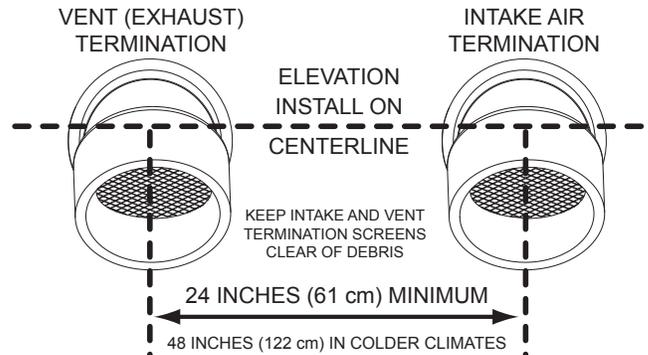

Figure 25. Side-Wall Termination - Direct Vent
4. If installing both an intake air and vent termination in a Direct Vent configuration through a sidewall there must be a minimum of 24 inches (61 cm) separation, measured on vertical center line, between the intake air and vent terminations, see *Figure 25*.
5. If installing both intake air and vent terminations in a Direct Vent configuration through a sidewall the intake air and vent terminations must be installed at the same elevation measured on horizontal center line - see *Figure 25*.
- However, the distance between the closest vent and intake air terminations must be a minimum of 24 inches (61 cm). In colder climates this separation should be increased to at least 48 inches (122 cm). See *Figure 25* (page 27).